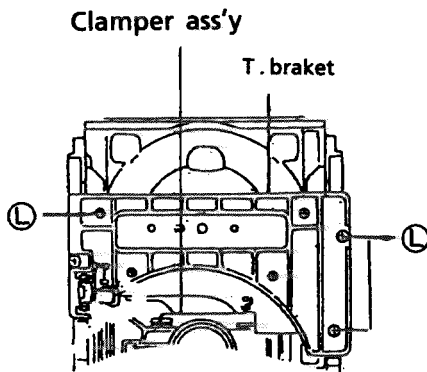

Fig.22
4. Remove 3 screws ④ securing T.Bracket.(See Fig. 22.)